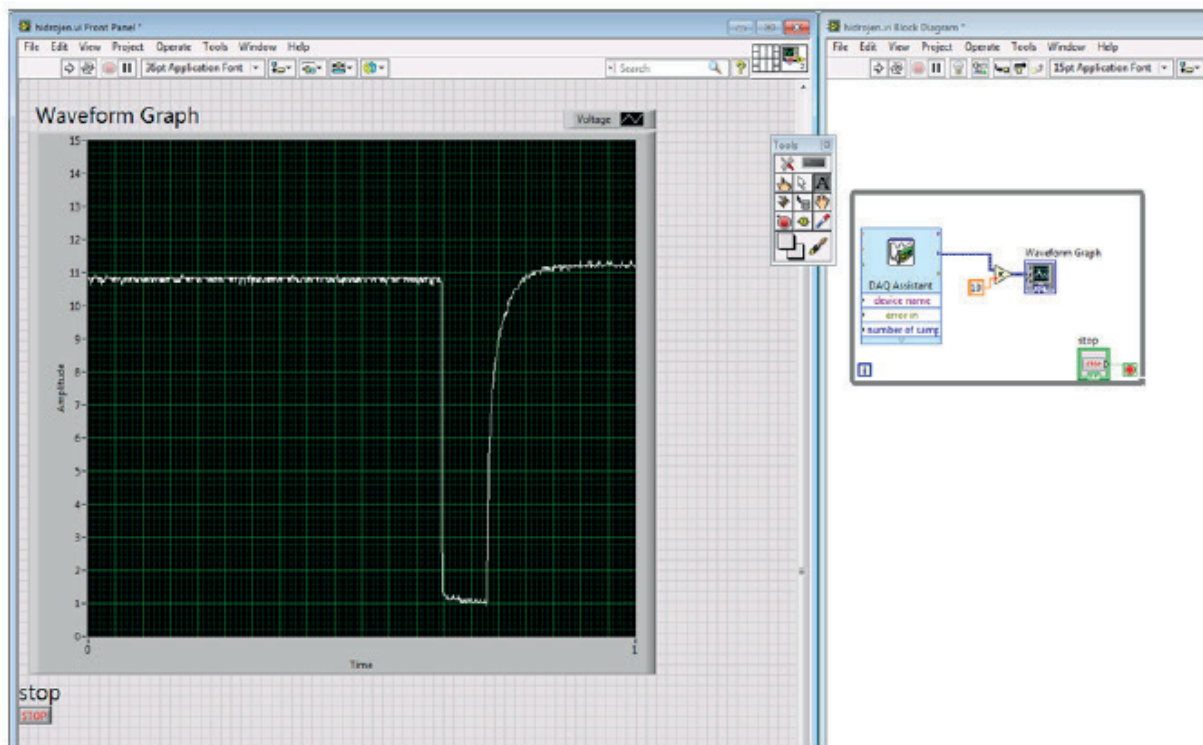

Figure-2
- 5) By using the LabView software, add a waveform graph to the front panel as shown in Figure-2. Set the time Time-scale at 0.1 seconds.
- 6) By using the LabView software, add a waveform graph to the front panel as shown in Figure-2. Set the time Time-scale at 0.1 seconds.